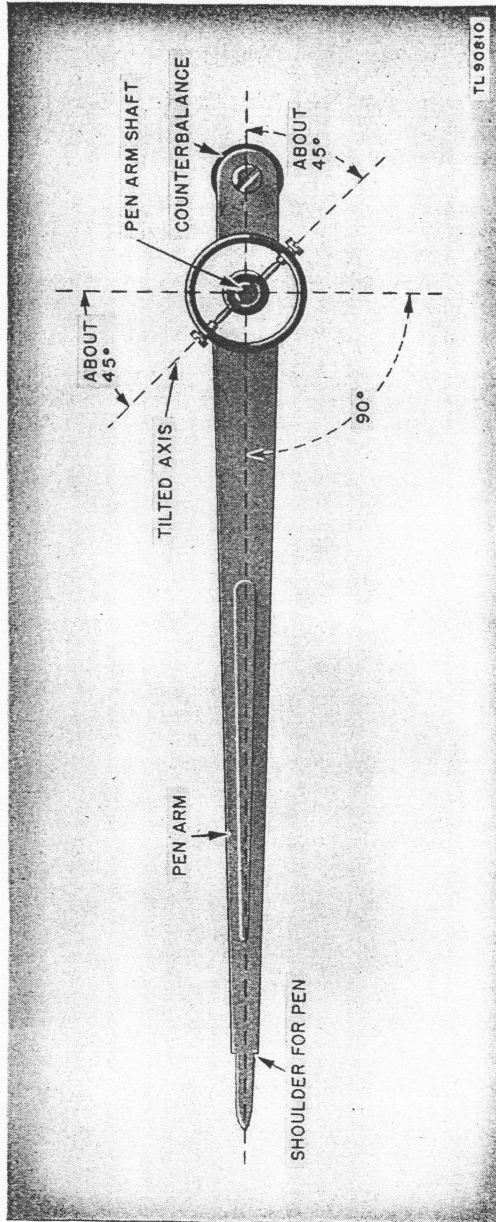

Figure 7. Tilted axis of pen arm.
(1) The apex of each cone-shaped plunger points down in the fluid. Any air trapped below the plunger will tend to rise and escape through the space between the side of the plunger and the wall of the dash pot.
(2) The clearance between the plunger and the dash pot wall also is the space through which the dash pot fluid must flow as it is displaced by the movement of the plunger.
(3) The clearance is only about 0.006 inch. Consequently the plunger can be forced down only slowly. Since each end of the calibration lever is attached to such a plunger, any rapid vertical motion transmitted to the lever system is damped.
e. The tilted axis (fig. 7) fixes the pen arm so it must move in a vertical plane in response to movements of the pen arm shaft, and at the same time causes the pen to bear against the chart or permits free motion in a curved horizontal plane.
(1) Assuming the longitudinal axis of the pen arm horizontal, the pivots of the tilted axis are inclined about 45° from the vertical in a plane perpendicular to the horizontal axis of the pen arm shaft. Thus any sidewise movement of the end of the pen arm must occur in a concave curved plane, and gravity will tend to keep the end of the pen arm at the lowest point in that curve.
(2) The chart cylinder is located so the lowest point of the theoretical concave curved path occurs *within* the chart cylinder. Consequently, the pen at the end of the pen arm bears against the chart with a pressure resulting from the pull of gravity. Correct pen pressure depends upon the barograph being level.